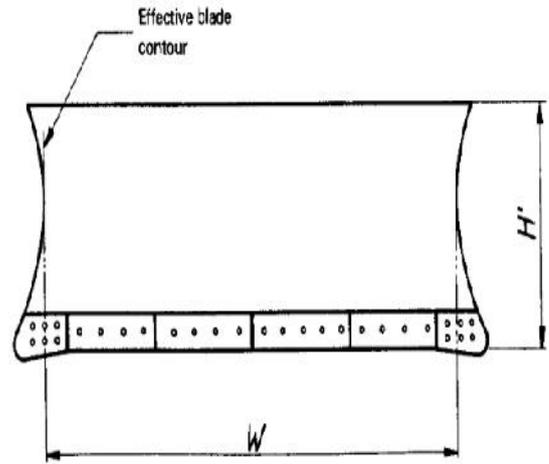

Figure 5 – Angling blade dimensions
3.3.1 blade width, W : Blade width, in metres (see figure 5).
3.3.2 effective blade height, H' : Vertical height, in metres, with the blade in the mid-pitch position (see figure 5).
3.3.3 effective blade contour : Simplified representation of the blade face for calculating the blade capacity based on the vertical plane bounded by W and H' (see figure 5).